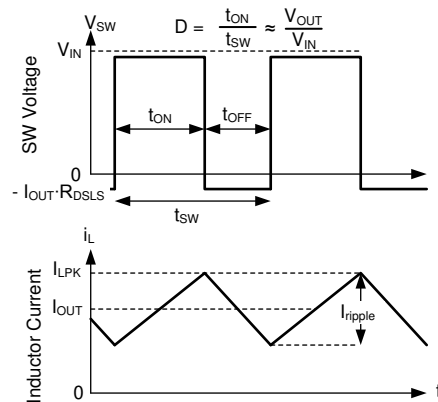

Figure 7-20. SW Voltage and Inductor Current Waveforms in Continuous Conduction Mode (CCM)
The following operating description of the LM6x4xx-Q1 refers to Section 7.2 and the waveforms in Figure 7-20. Both supply a regulated output voltage by turning on the internal high-side (HS) and low-side (LS) NMOS switches with varying duty cycle (D). During the HS switch on-time, the SW terminal voltage, V_{SW} , swings up to approximately V_{IN} , and the inductor current, i_L , increases with a linear slope. The HS switch is turned off by the control logic. During the HS switch off-time, t_{OFF} , the LS switch is turned on. Inductor current discharges through the LS switch, forcing V_{SW} to swing below ground by the voltage drop across the LS switch. The regulator loop adjusts the duty cycle to maintain a constant output voltage. D is defined by the on-time of the HS switch over the switching period: $D = T_{ON} / (T_{ON} + T_{OFF})$.